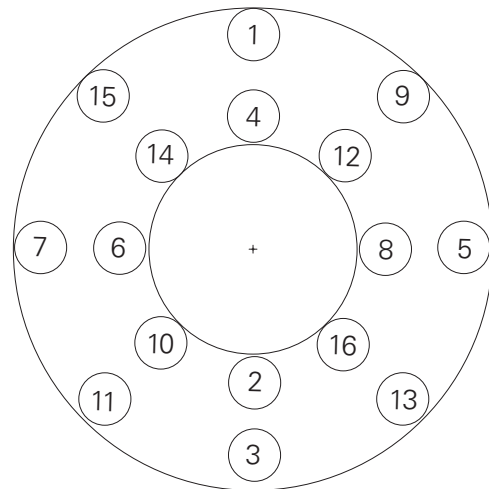

Figure 14
(a) For the first 16 screws, bring the initial torque of each screw up to 33% of the torque value shown in Table 2 using the tightening sequence shown in Figure 14. Install and torque the remaining screws in any reasonable crosswise pattern to 33% of the torque value shown in Table 2.
(b) Repeat the sequence of torque tightening on the first 16 screws as shown in Figure 14 and bring each screw up to 66% of the torque value shown in Table 2. Torque the remaining screws in any reasonable crosswise pattern to 66% of the torque value shown in Table 2.
- (c) Repeat the sequence of torque tightening on the first 16 screws as shown in Figure 14 and bring each screw up to 100% of the torque value shown in Table 2. Torque the remaining screws in any reasonable crosswise pattern to 100% of the torque value shown in Table 2